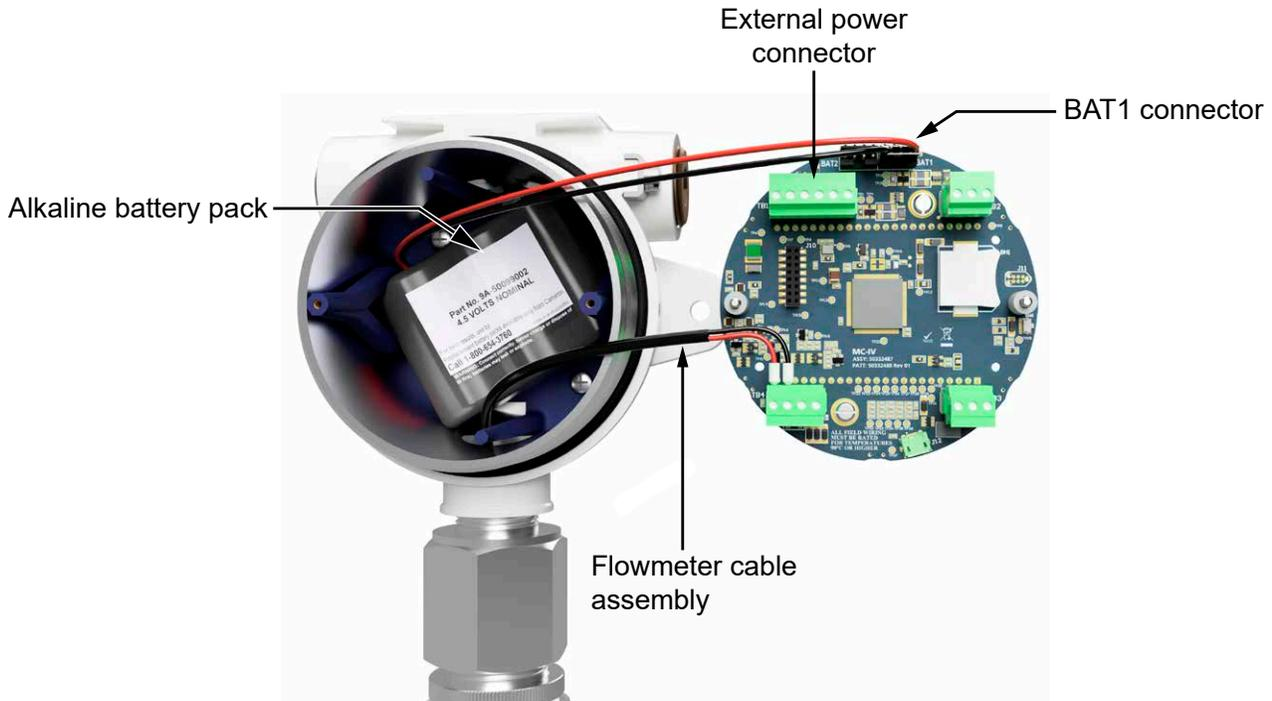

Figure 4.4—Removal/replacement of alkaline battery pack
4. Loosen the battery retaining strap, disconnect it from the BAT1 connector on the circuit assembly, and remove the battery from the enclosure (Figure 4.4, page 82).
5. Install the new shrink-wrapped battery pack in the same position as the original battery pack as shown in Figure 4.4, and secure the battery retaining strap to hold the pack tightly in place.